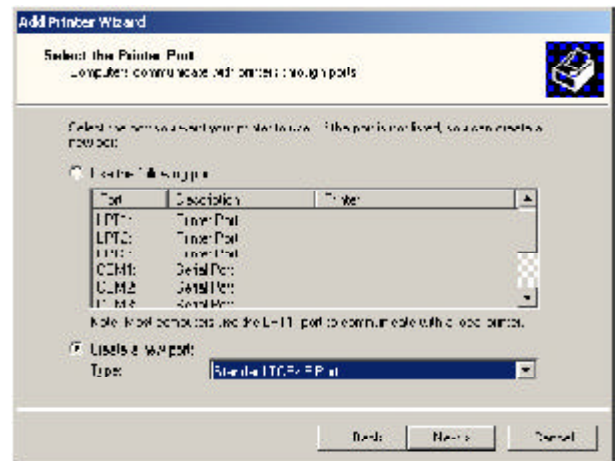

Fig. 4.2
Step 4 Select **Create a new port**. At the drop-down menu, select **Standard TCP/IP Port** and click **Next**. See *Fig. 4.2*